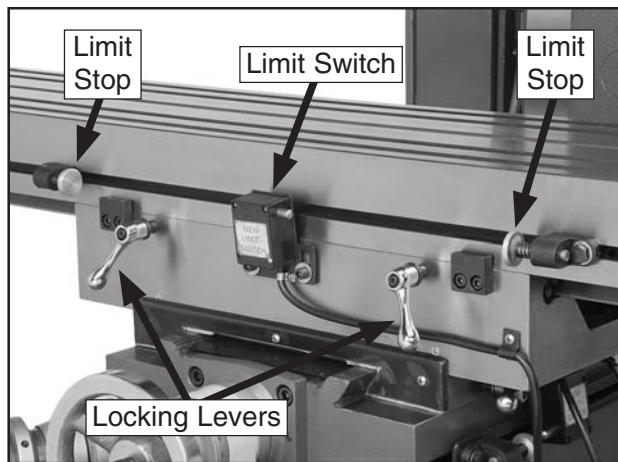

Figure 35. X-axis limit switch, limit stops, and locking levers (front of Model G0615 shown).
1. Loosen the table locking levers (see **Figures 35–36**).